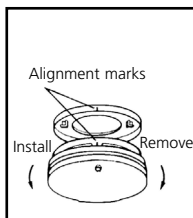

FIGURE 8
6. Alignment marks are provided on the edge of the trim plate and the alarm. After installing the mounting plate, place the alarm on the mounting plate with the alignment marks lined up. Twist the alarm in the direction indicated by the "ON" arrow on the alarm cover (see figure 8) until it locks in place.
If tamper resist pin has been used, refer to TAMPER RESIST LOCKING PIN in section 3 for removal instructions. To replace the battery, remove the alarm from the mounting plate by rotating the alarm in the direction of the "OFF" arrow on the cover (see figure 8).